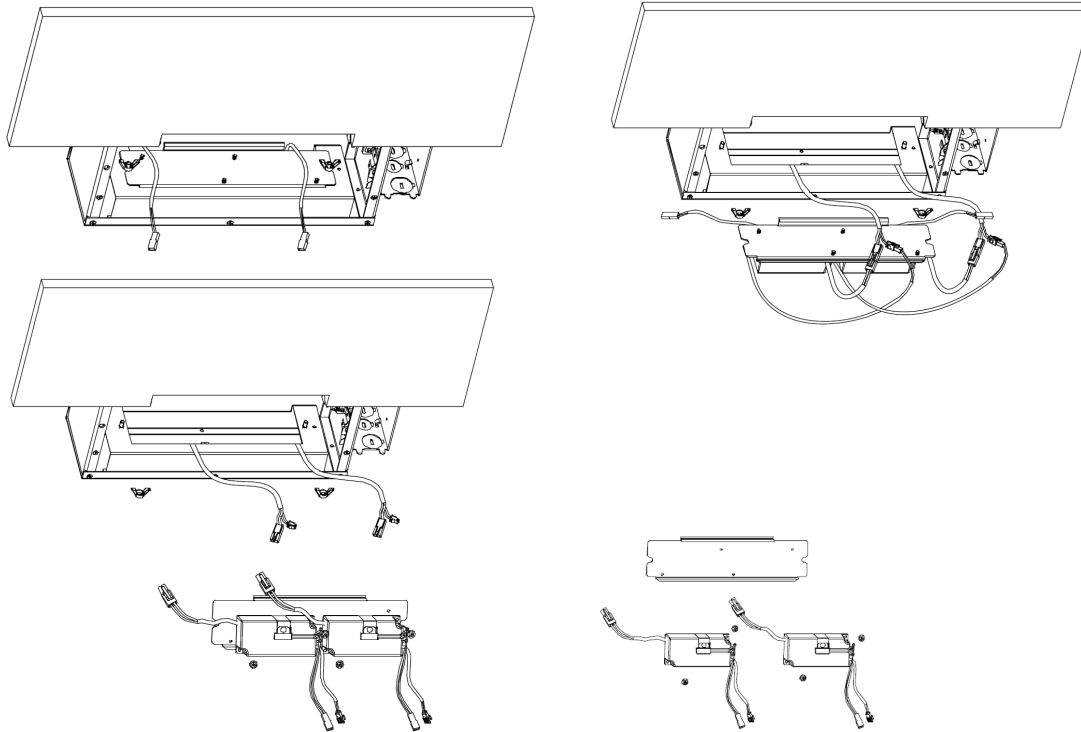

FIG 22
4. Loosen and remove wing nuts from side of the housing, and then pull driver assembly panel out.(See FIG 22)